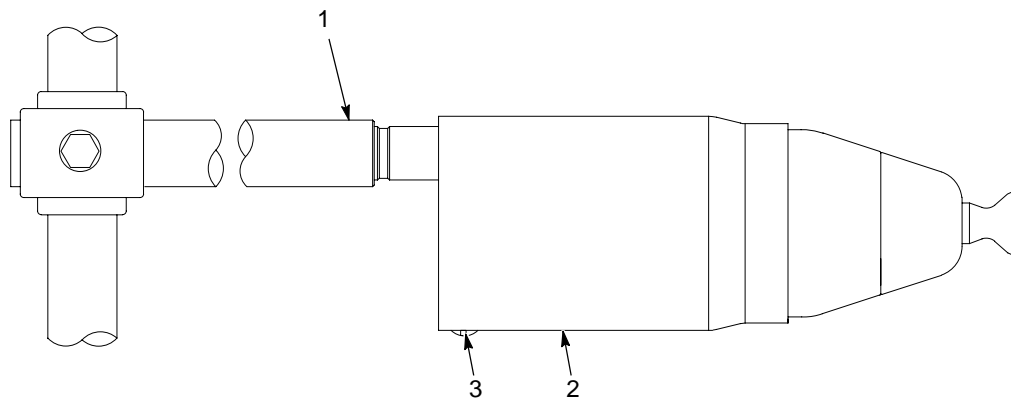

Figure 3-1 RA-20 Rotary Atomizer Mounting
1. See Figure 3-1. Remove the oval-head screws (3) and the rear shroud (2).